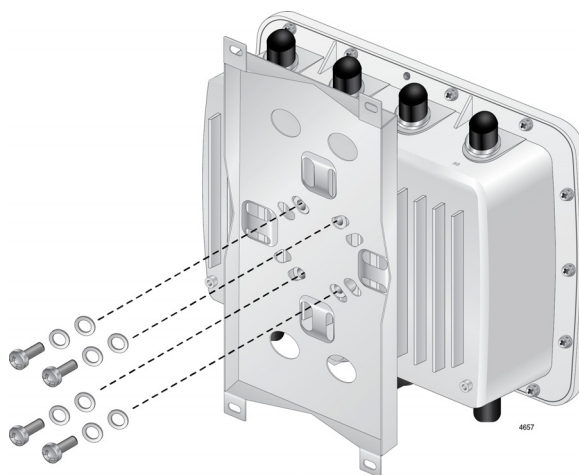

Figure 14. Attaching the Mounting Base to the Access Point
5. Attach the mounting base to the access point with the screws using a Phillips-head screwdriver. See Figure 14.